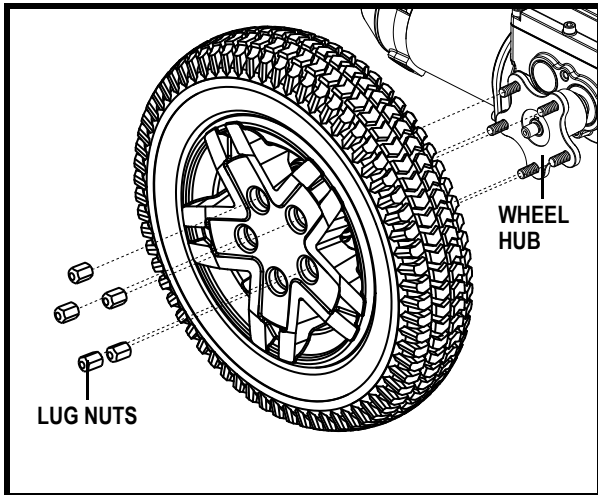

Figure 20. Jazzy 623 Drive Wheel
4. Remove the (5) lug nuts from the wheel hub. See figure 20.